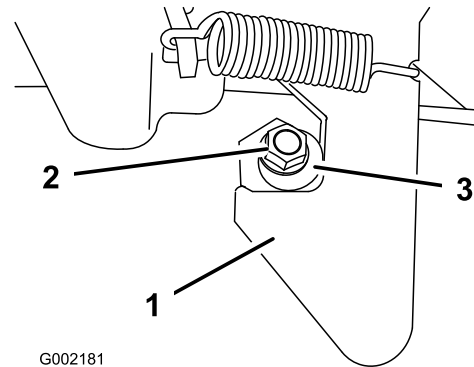

Figure 55
1. Loosen the locknut on the end of the latch post (Figure 55).
2. Rotate the latch post clockwise until it is snug against the hook portion of the latch (Figure 55).